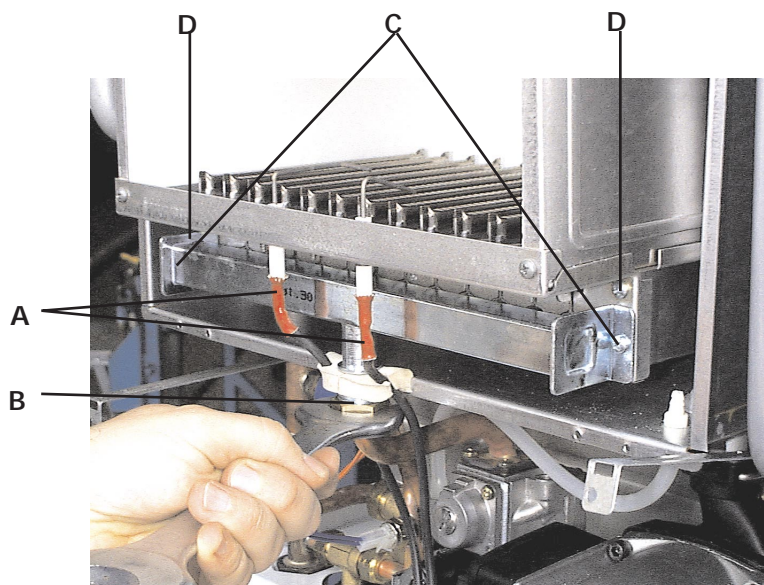

Fig. 36
7.08 Removal of burner (fig. 36)
7.09 Injectors (fig. 36)